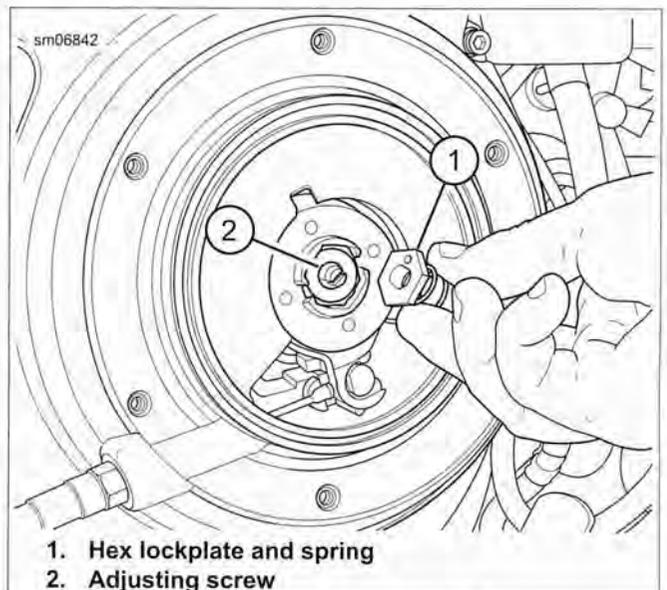

Figure 1-41. Clutch Adjustment Screw
3. See Figure 1-41. Remove the hex lockplate with the spring (1) from the clutch adjusting screw (2).